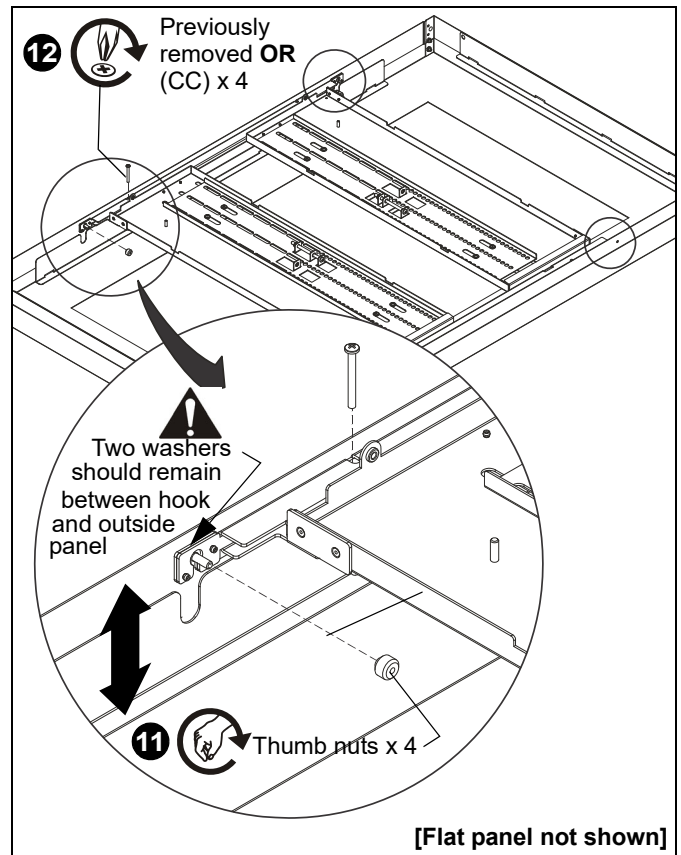

Figure 12
NOTE: The outer cover depth may be adjusted between 3" - 5" to make room for a variety of different flat panel thicknesses. (See Figure 12)
11. Tighten thumb nuts over threaded studs in four locations on the hinged frame. (See Figure 12)
12. Replace and fasten four Phillips screws which were removed in Step 1, **OR** replace the removed screws with four 10-24 x 3-1/2" Phillips head screws (CC) to allow for a larger depth adjustment of the outer frame. (See Figure 12)